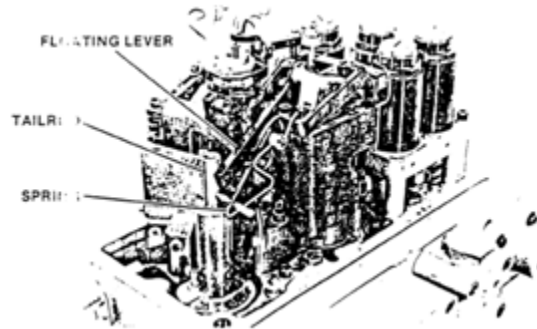

Figure 5-73. Completed Assembly
44. Connect floating lever, from altitude compensation, to tailrod (Figure 5-73).
45. Connect spring as shown in Figure 5-73.